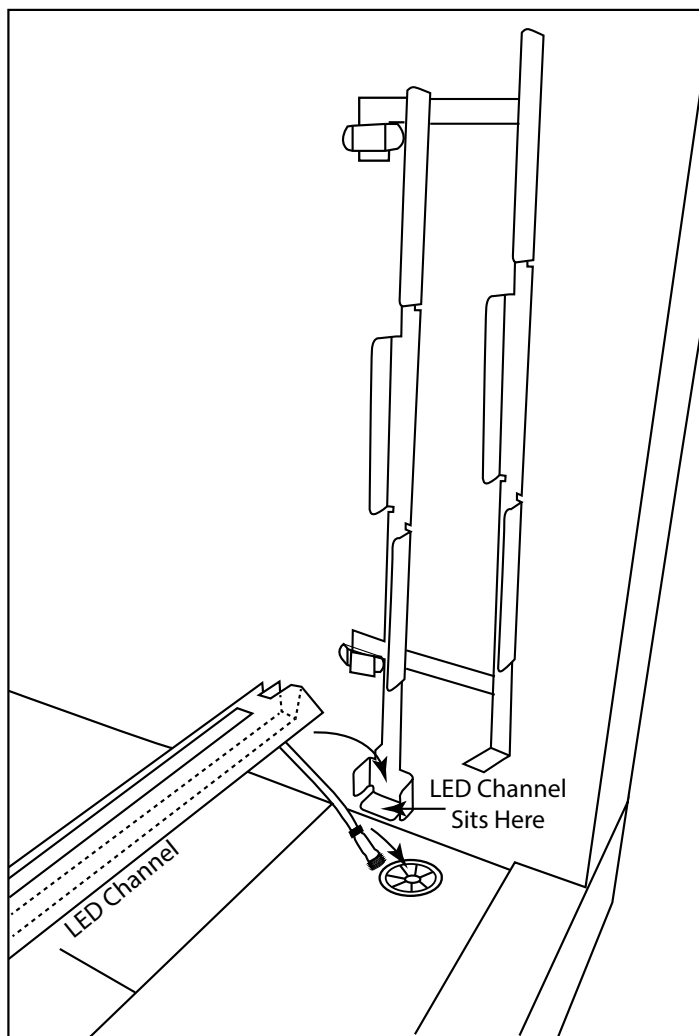

Fig. 20 Installing LED lights and channel
**Step 6:** Carefully push the LED channel connector through the wire grommet. As you push it through the grommet sit the LED channel into the bottom of the glass clip. Ensure the other end of the channel is also sitting inside the other retainer clip. See Figs. 20 & 21 as a reference. **Note:** If you are installing into a see-through fireplace, install the other LED light strip and channel the same direction.